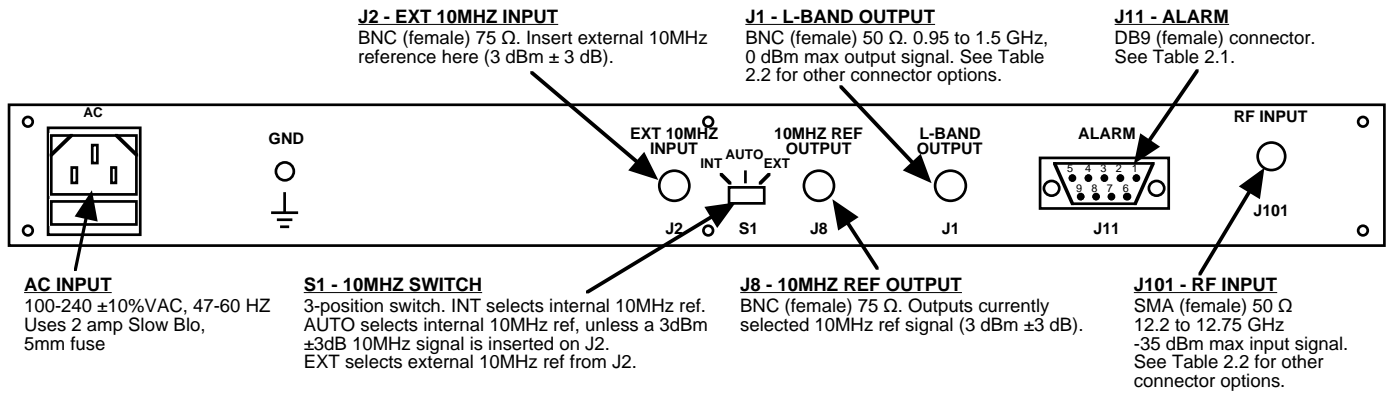

FIGURE 2.1 2116-125 Rear Panel I/O's
Figure 2.1 shows the input and output connectors on the rear panel.
1. Connect a -55 dBm to -35 dBm signal to RF INPUT, J101 (Figure 2.1).
5. Select either INT (for internal 10MHz ref), AUTO (for internal 10MHz ref UNLESS an external 10MHz, 3 dBm signal is connected to J2), or EXT (for external 10MHz, 3 dBm ref that is inserted at J2) on rear panel switch S1 (Figure 2.1).
7. Check that a 10MHz, 3 dBm \pm 3 dB signal is present at the 10MHz REF OUTPUT (J8) (Figure 2.1).